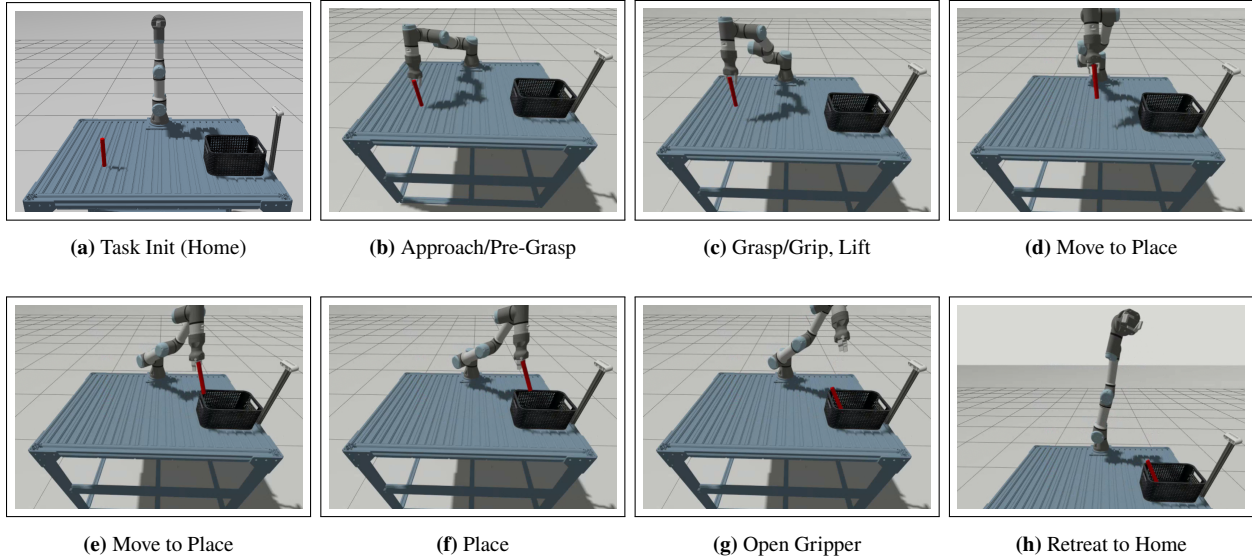

Figure 1: Phases of the object relocation task visualized in simulation.
4. The pick-and-place node **pnp_demo_sim.py** (in the `ur3e_hande_moveit_py` package) drives the autonomous routine, but its inverse-kinematics step has been left for you to complete. You will fill it in, run the node, and verify the full pick-and-place in Exercise 1. When the routine runs correctly, the node prints a per-subtask report ending with the lines below, and the robot moves through the phases in Figure 1.
Verify in Gazebo that the arm completes the full sequence (approach, grasp, lift, place). Submit your completed inverse-kinematics lines and a short video OR a collage of screenshots showing object detection and plane segmentation in RViz and the robot at the approach and place configurations (see Figure 1).